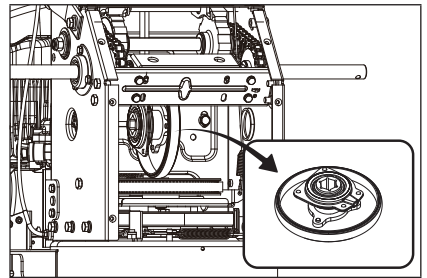

Figure 69
6. Remove the friction disc. (Fig. 69)